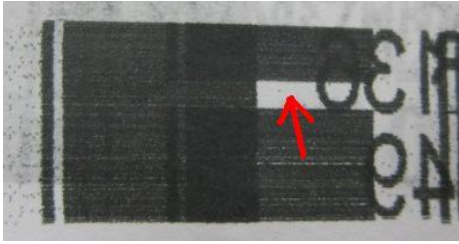
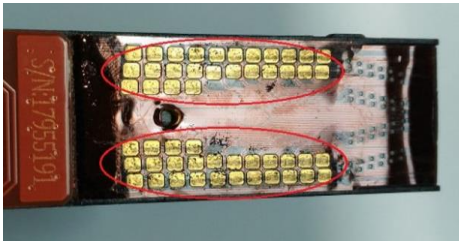

Figure 5-4
Figure 5-6
- Problems such as those illustrated in Figures 5-4 & 5-5 are the result of poor contact between the cartridge and printer contact pins. A bad connection may be due to obstruction either by an external object or dirt on the pins, as shown in Figure 5-6.